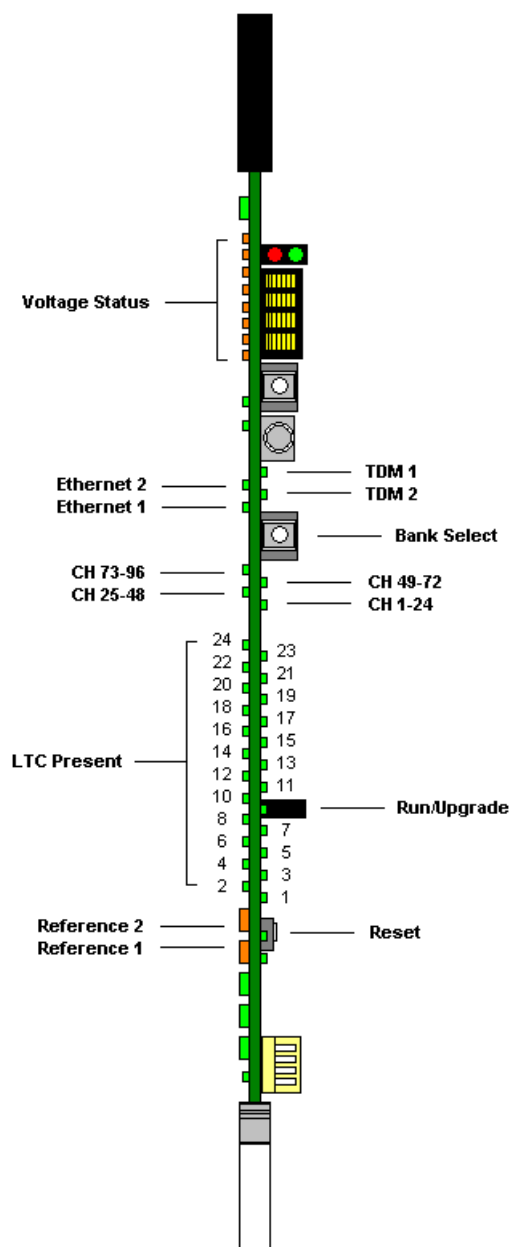

Figure 2-30: EMR-OP96 (48)-LTC Front Card Edge
The EMR-OP96 (48)-LTC front card edge has some key controls and indicators that can help in the installation and debugging processes. Figure 2-30 and Table 2-19 show the card edge and describe the expected behavior of each component. If the status indicators do not behave as described it can be a sign of installation or configuration issues.